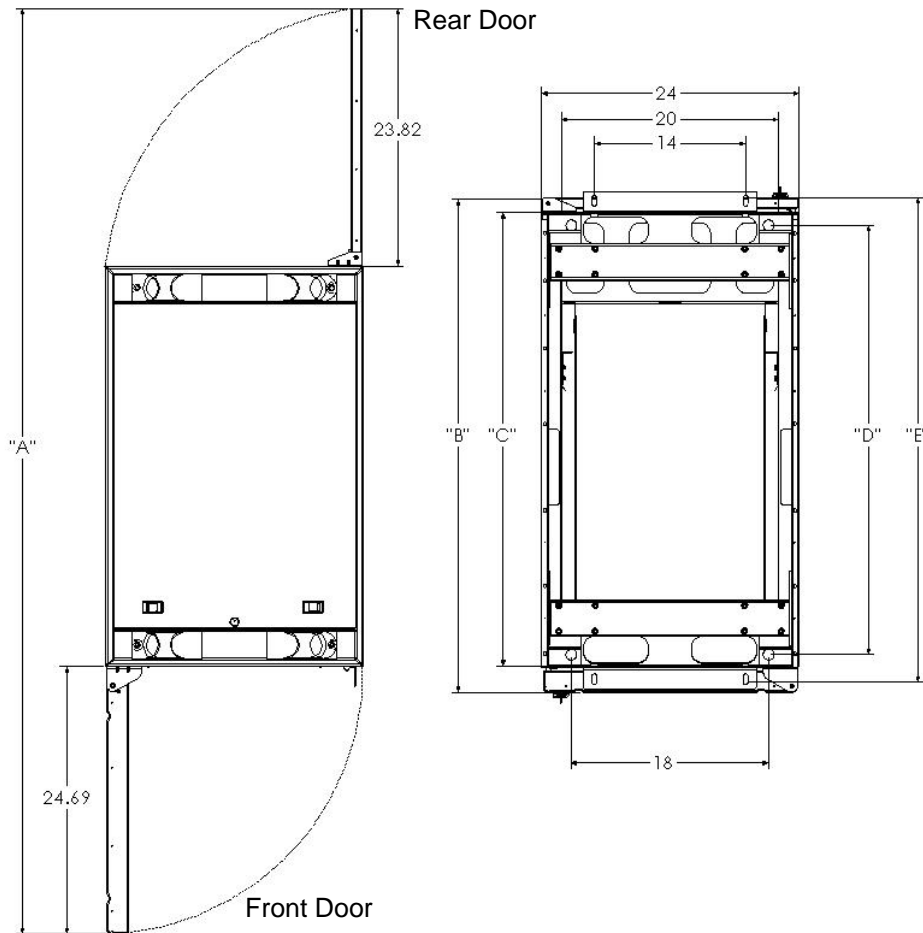
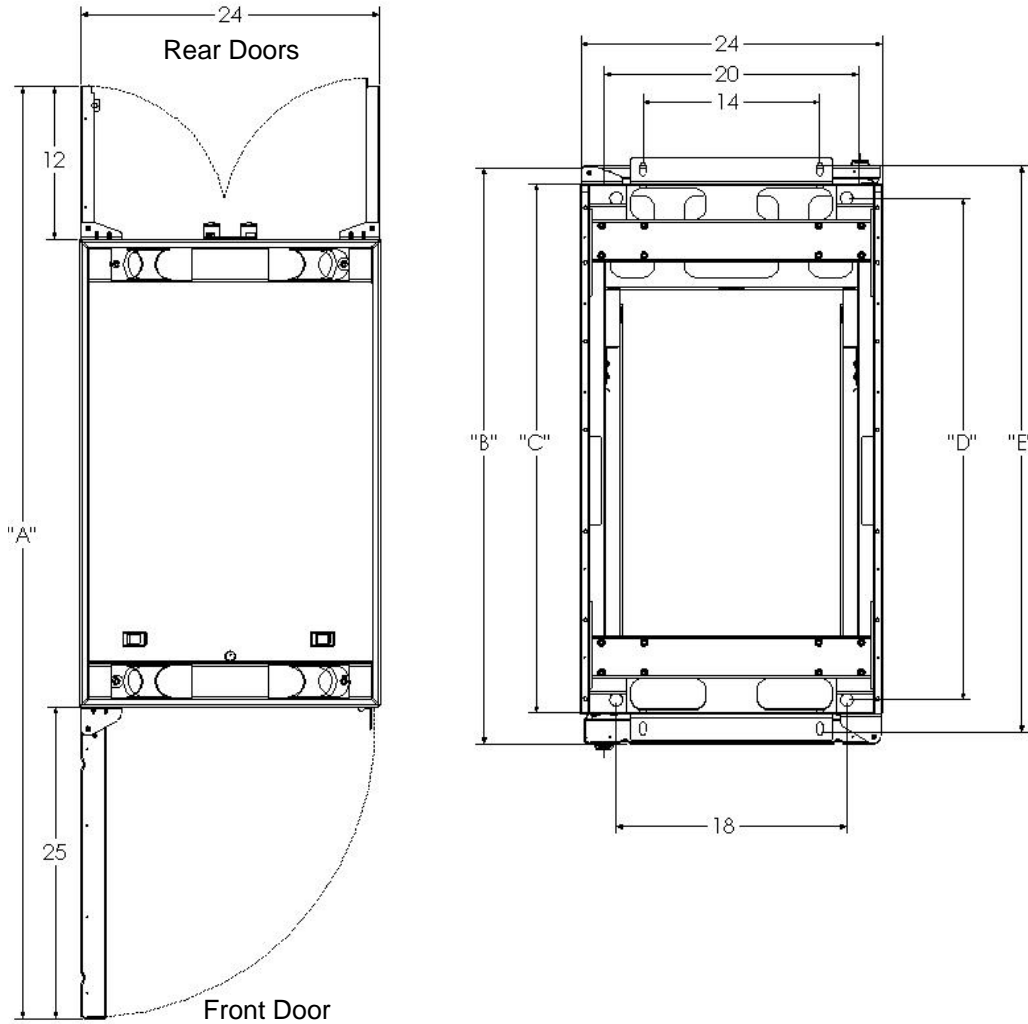

Figure 3
Figure 4
- Check that the site can accommodate the cabinet footprint and mounting locations according to the illustrations in Figure 3 and Figure 4.